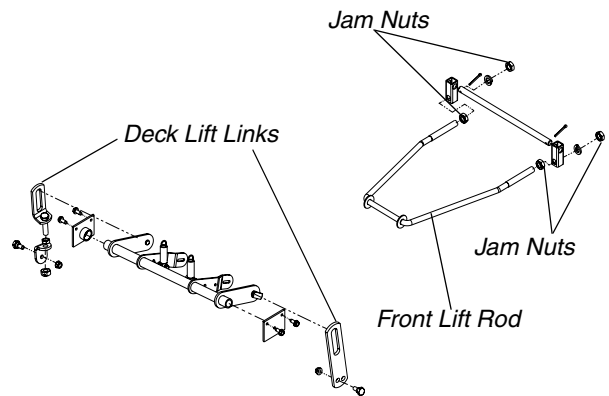

Figure. 5
- c. If the dimension at the front of the mowing deck is 1/8"-1/4" lower than the dimension at the rear of the deck (pitch) on each side of the mower, do not adjust. If not, you will need to adjust the Front Lift Rod (See Figure 5).